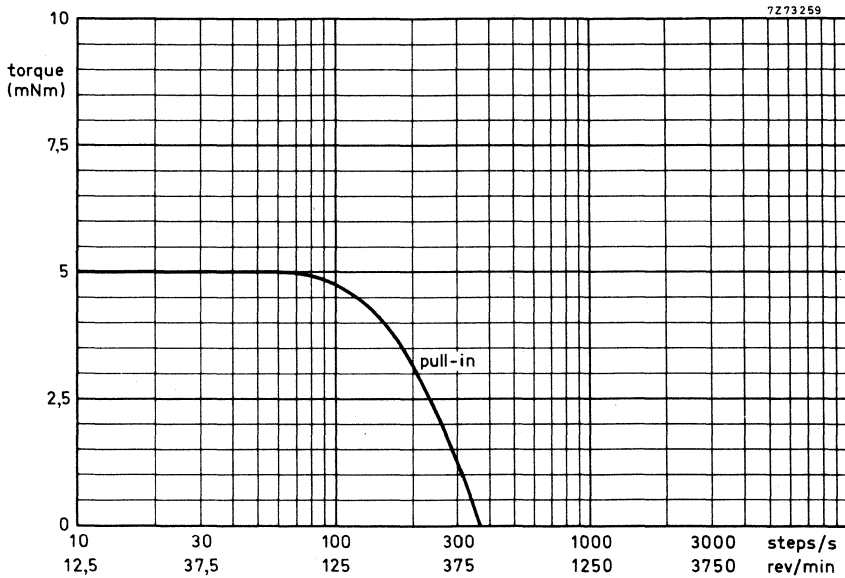

Fig. 2. Torque versus stepping rate, measured at room temperature
2) When driven by electronic switch 9904 131 03003 with RC network (see General section, Fig. 2.  $R_V = 34 \Omega$ ;  $C_V = 27 \mu\text{F}$ ;  $V_b = 12 \text{ V d. c.}$ ;  $R_S = (V_b - 5)/0,230 \Omega$ ).